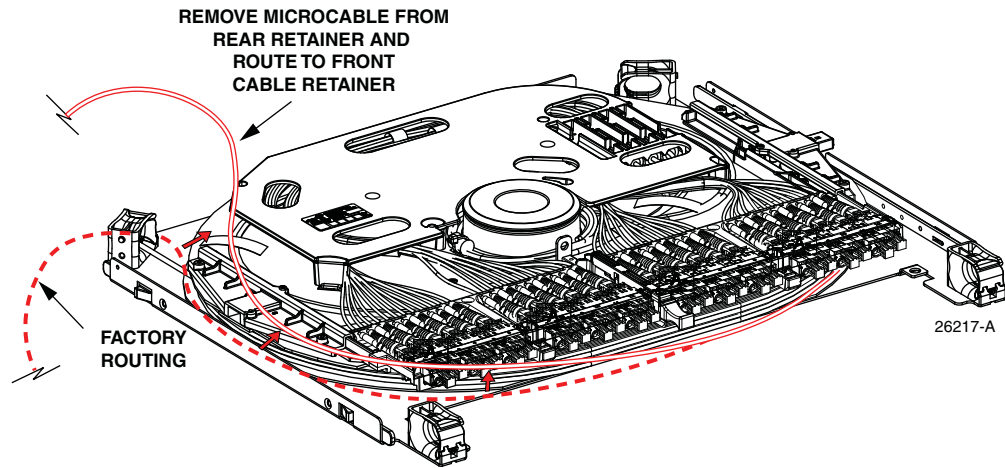

Figure 26. Remove Microcable From Rear Cable Retainer
- c. Remove the microcable from the cable retainer at the rear side of the RapidReel cable spool tray and route the cable to the front as shown in Figure 26.